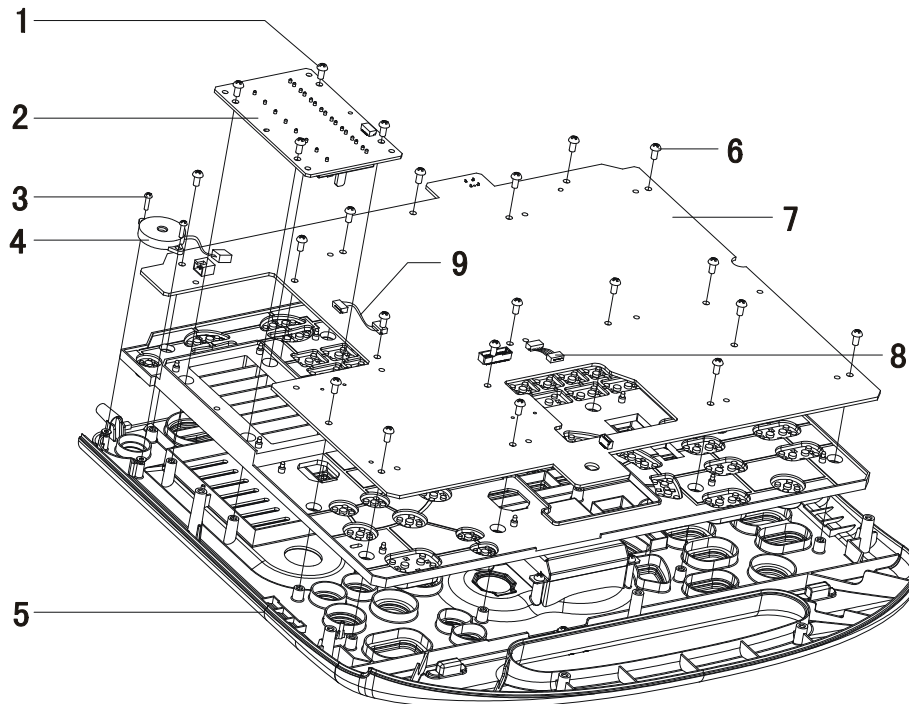

Figure 4-15 Removing TGC Adjusting Board and Control Panel
- 2) As shown in Figure 4-15, disconnect STC connection wire, trackball connection wire and buzzer connection wire;